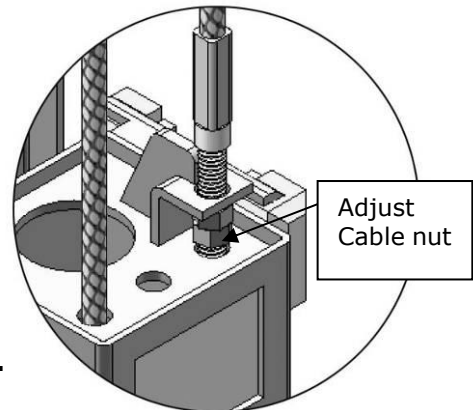

Fig. 50
1. Adjust synchronous cable (See Fig.50)